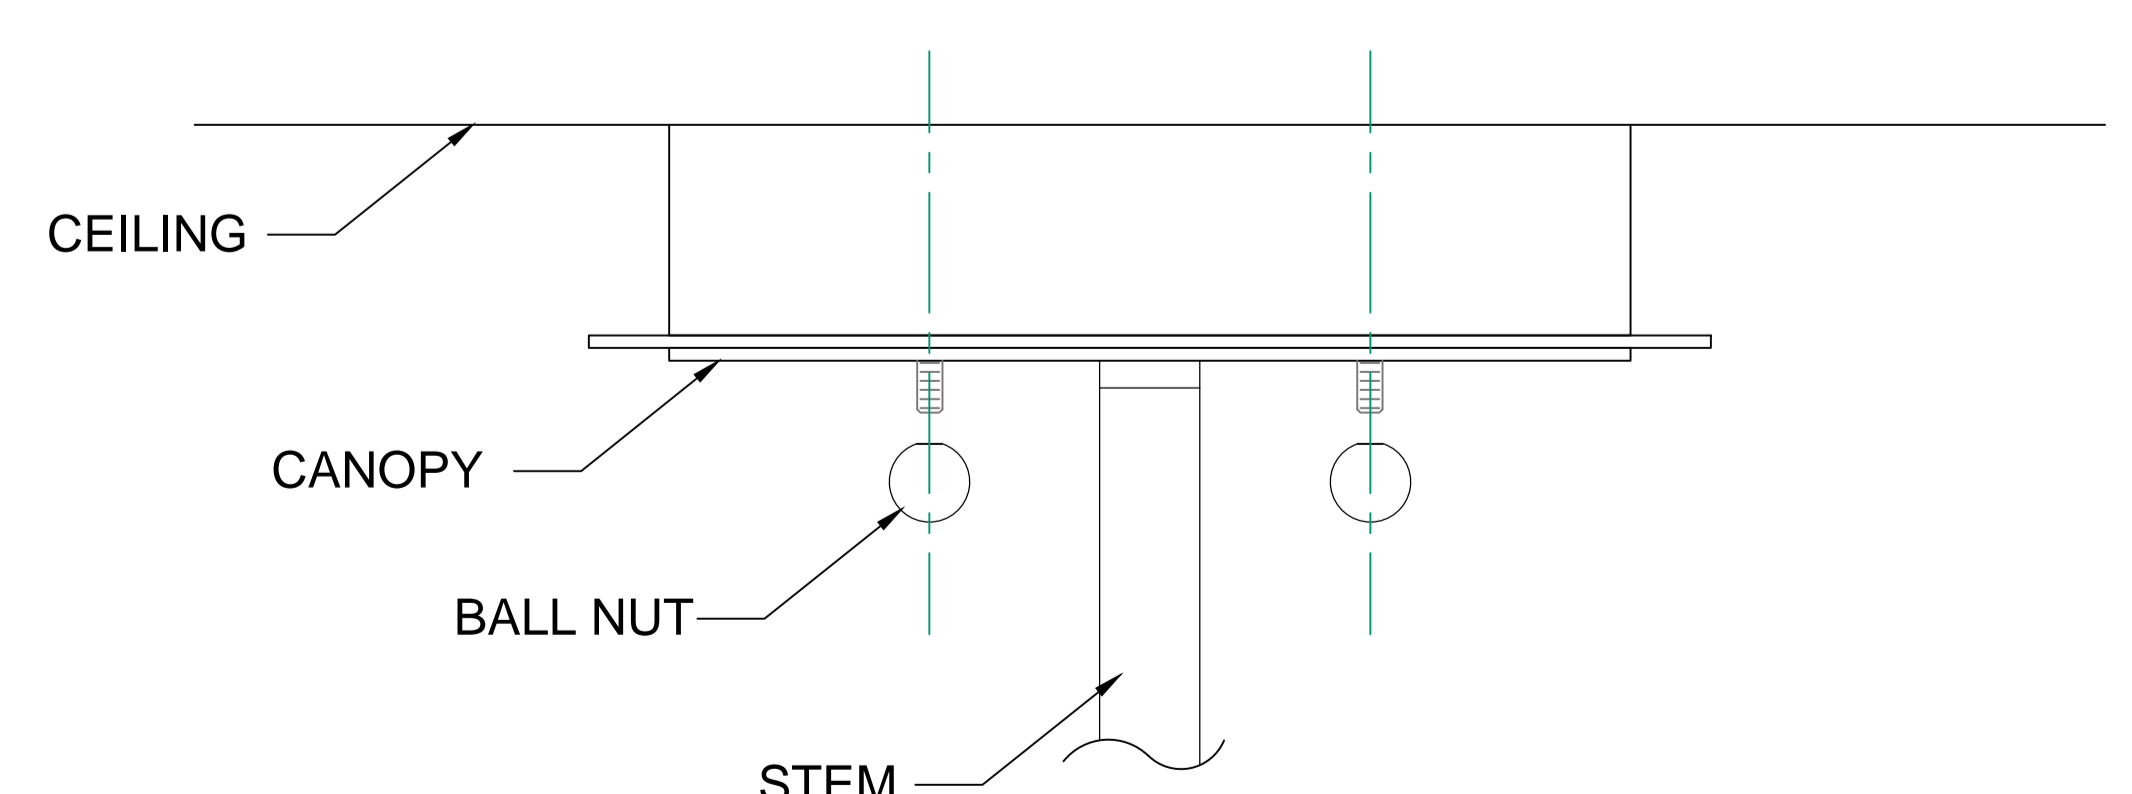

FIGURE-04
8. Pull up & attach the canopy to the mounting strap and secure it with ball nuts. (See Figure-04)